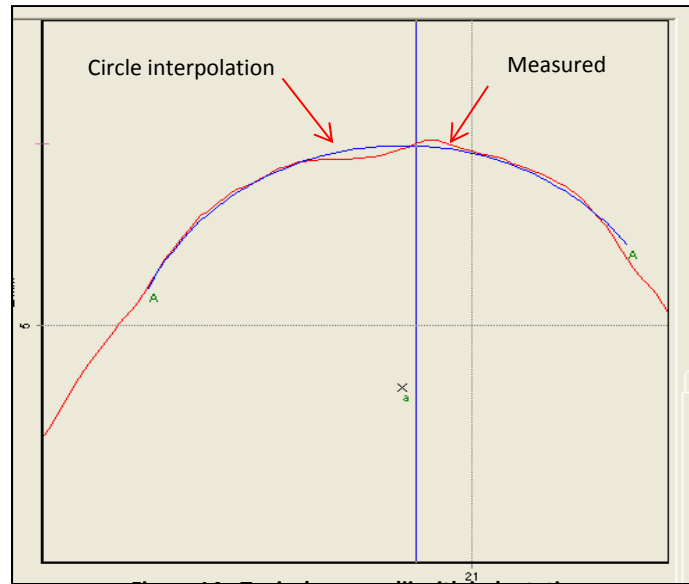

Figure 14 - Typical nose radii with indentation
- We have found from the measurements (table 3) that the sample received shows wear and tear as exemplified by the nose radii profile (fig.14).